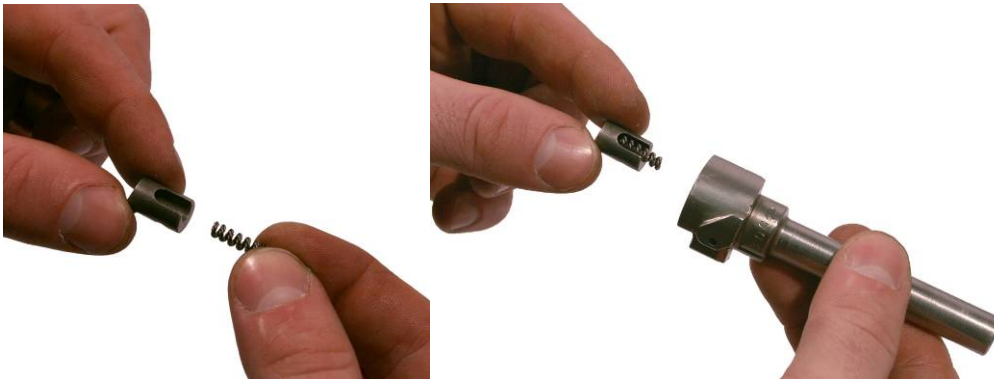

Figure 6. Installing Extractor and Extractor Spring.
1. Install the extractor spring into the extractor and install them into the bolt. Refer to Figure 6.